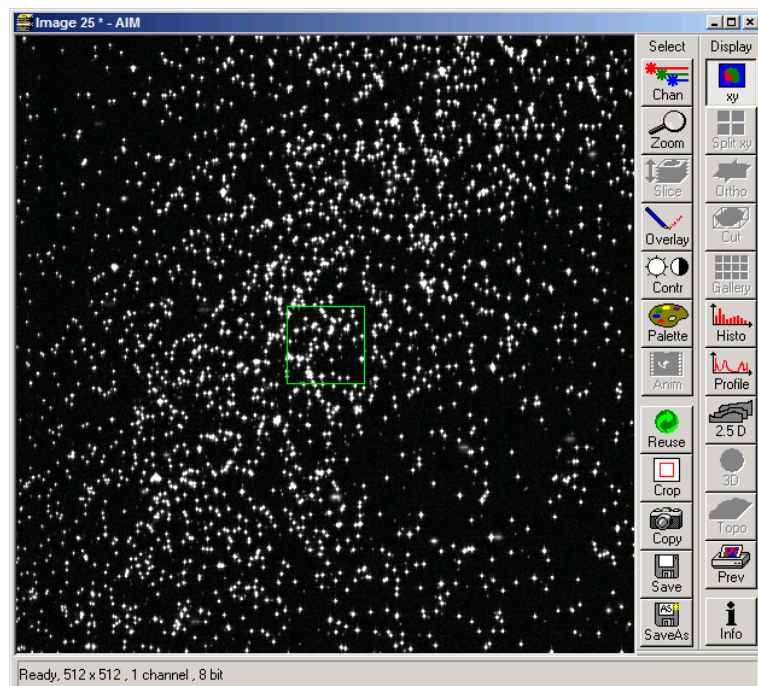

Fig. 4-178 Beads optimally focused
- Now use the **Collimator** slider to get a round spot out of the line (Fig. 4-178)